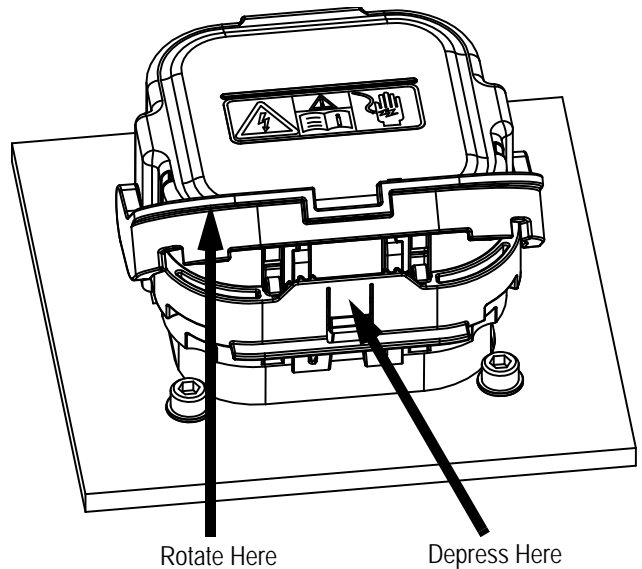

Figure 9
3. Depress the lever release latch firmly. With the latch fully depressed, rotate the lever upward and away from the pack as shown in Figure 9.